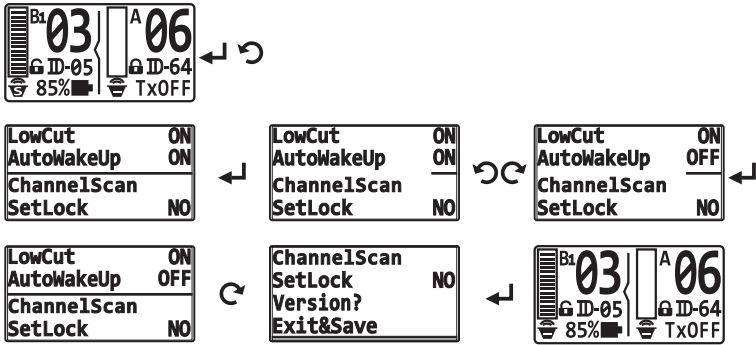

Fig. 23
- (A) Press knob once at Home Screen, turn and locate Low Cut status bar. Press once to activate parameter setting.
- (B) Turn right or left to ON or OFF position.
- (C) Press once to accept change. To save changes, turn and locate Exit & Save status bar, press once to save and return to home screen.
7. Setting Auto Wake Up, see Fig. 23: